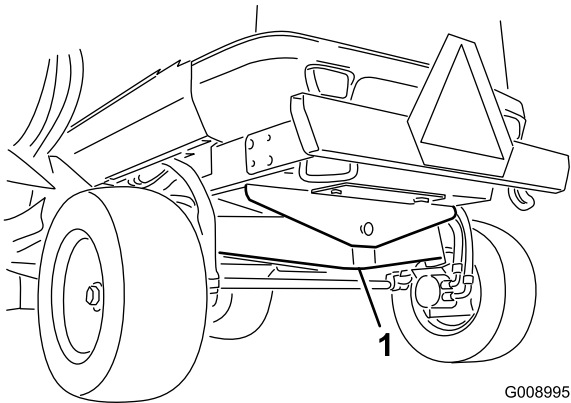

Figure 39
- Front jacking point (2)
- On the rear of the machine at the center of the axle (Figure 39).